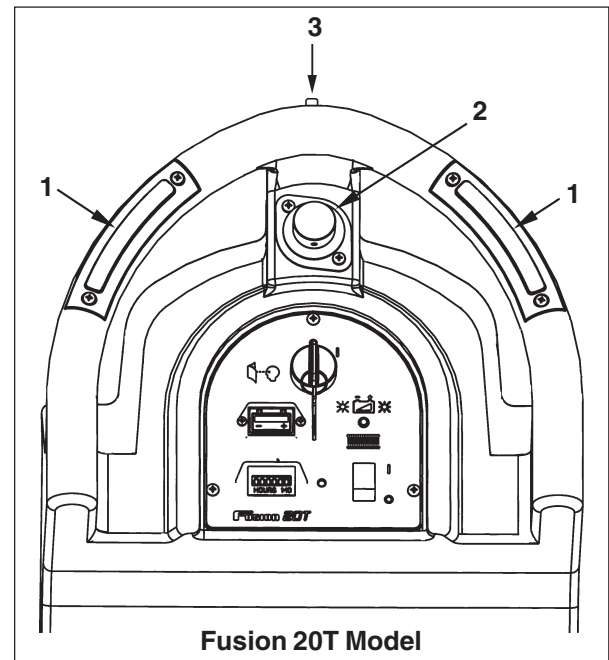

Figure 2
1. Make sure the loading ramp is at least eight (8) feet long, and strong enough to support the machine.
5. Align the machine on a level surface five (5) feet in front of the ramp.
6. Put the traverse knob at full speed (20T Model only). See figure 2 (2).
7. **Fusion 20T** (see figure 2) - While pushing in traverse reverse switch (3), push in either the right or left pad / traverse switch (1) at the same time.